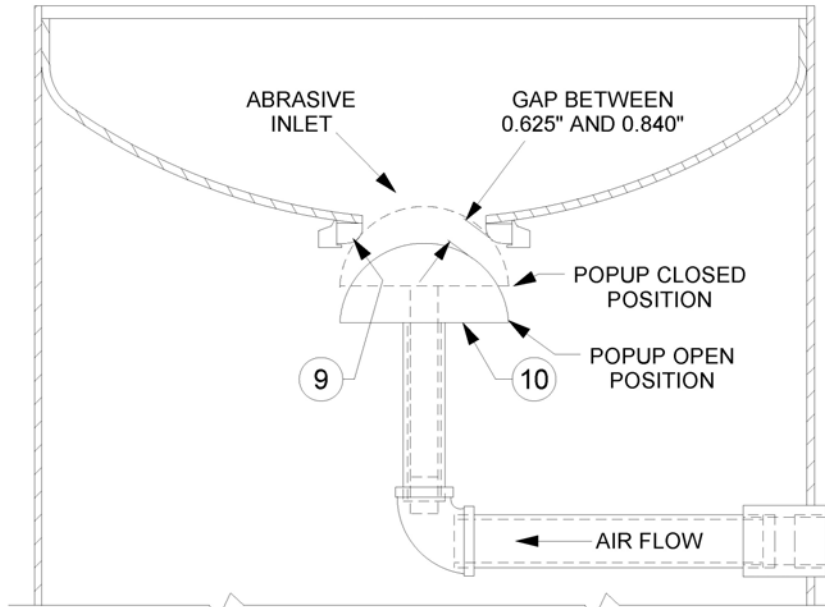

Figure 8.1 – Standard Popup Assembly
- e) Check the popup gap (distance between the popup surface and the gasket). It should be between 0.625" and 0.840". See Figure 8.1. An excessive gap is created by a vertical nipple that is too short. An excessive gap will expose the top of the vertical nipple to abrasive when the popup closes which could result in premature wear to the popup.